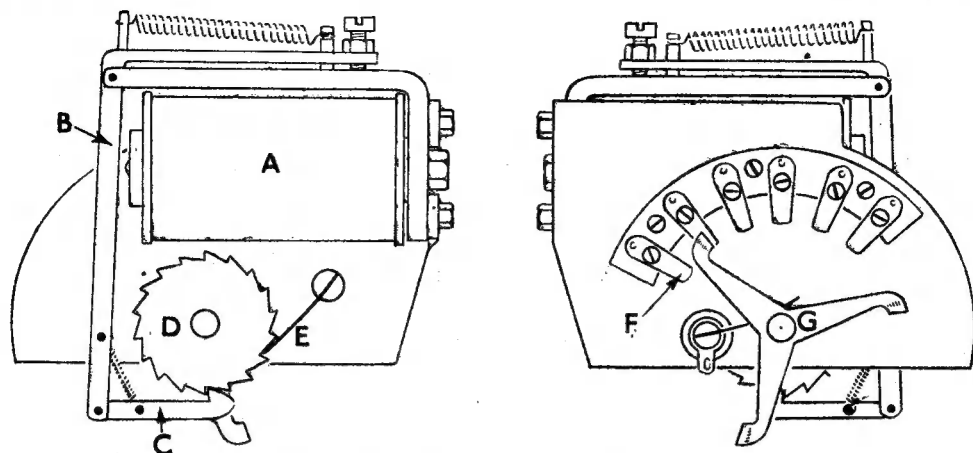

Fig. 8. Circuit selector. The overall width is about $3\frac{1}{4}$ in.
The construction of a selector is shown in Fig. 8. A is an electromagnet and B its armature carrying the spring-loaded pawl C. This rotates wheel D which is provided with a detent E. It will be seen that the electromagnet does not shift D directly—the wheel is rotated on the backward movement where the impulse (being generated by a spring) is constant. If the action is reversed, a new battery with its increased power tends to make the wheel overshoot; one of the essentials in construction is accuracy, so that the wiper arm stops quite positively on each contact.
Selectors are available in the surplus market, but as they often have four or more banks of wipers and contacts, they use about 12 W of power and are unduly large. Useful ones may, however, be made fairly simply on the lines shown in Fig. 8 the moving parts being of steel and the frame aluminium. Soft-iron is used for the magnetic circuit. It is normally necessary to use rather small teeth on the wheel and one generally finds that the number of circuits to be controlled is fewer than the number of teeth (i.e., steps). It
is usual, therefore, to make the number of teeth a multiple of the steps required and to fit two, three or four wiper arms. Fig. 8 shows 18 teeth, 6 contacts (F) and 3 wiper arms (G) a convenient arrangement giving control over 6 circuits.